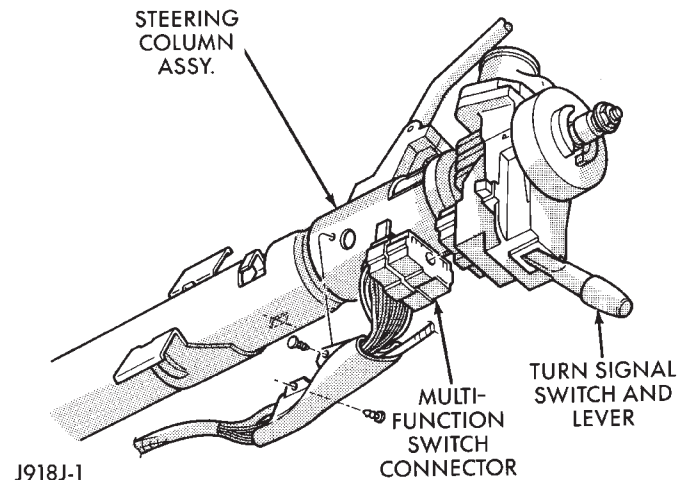

Fig. 14 Multi-Function Switch Connector -Typical
- (10) Remove the lower fixed column shroud.
- (11) Loosen the steering column upper bracket nuts. Do not remove the nuts.
- (12) Move the upper fixed column shroud to gain access to the rear of the multi-function switch (Fig. 14).